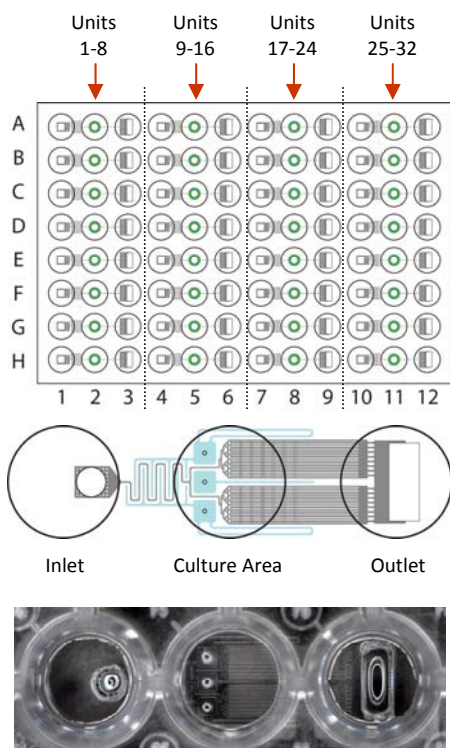

Figure 1. Well Layout
1. The Pearl microfluidic plate contains 32 independent chambers on a 96 well plate. Each chamber has 3 wells: an inlet, a culture area, and an outlet (Figure 1). The plate is shipped pre-primed with sterile PBS.